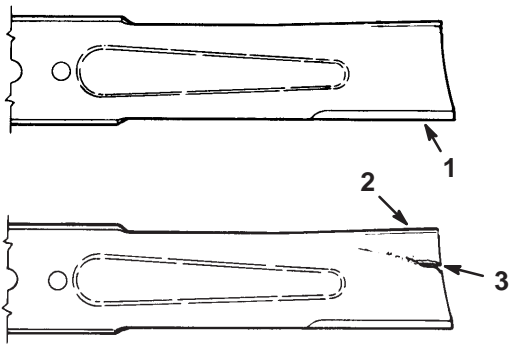

Figure 28
1. Inspect the cutting edges (Fig. 28).
3. Inspect the blades, especially the curved area (Fig. 28).
4. If you notice any damage, wear, or a slot forming in this area (Fig. 28), immediately install a new blade.